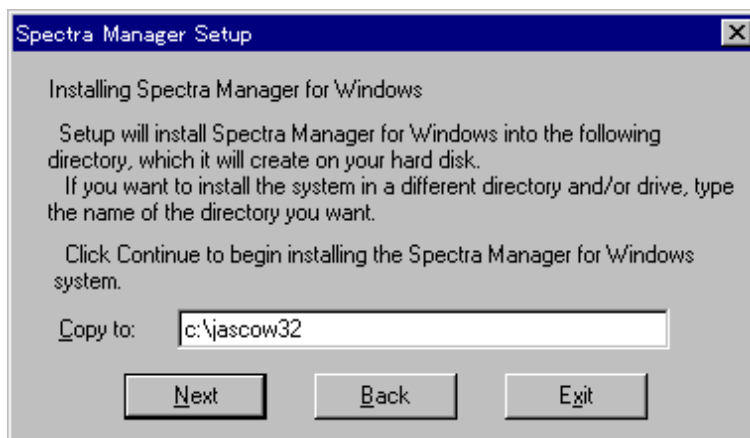

Fig. 9.7 Target program directory designation for [Spectra Manager]
- (2) Click the <Next> button. The dialog box shown in Fig. 9.7 appears.